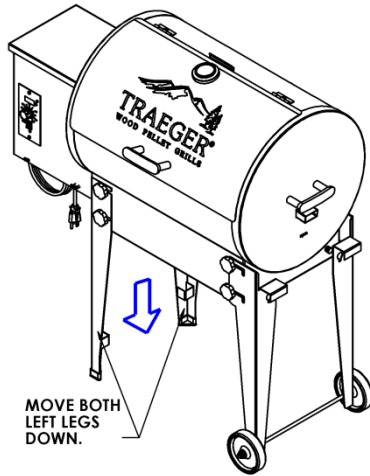
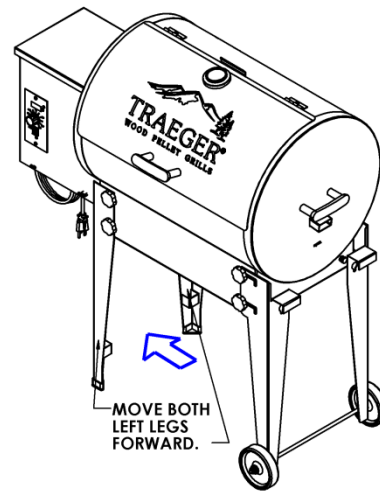
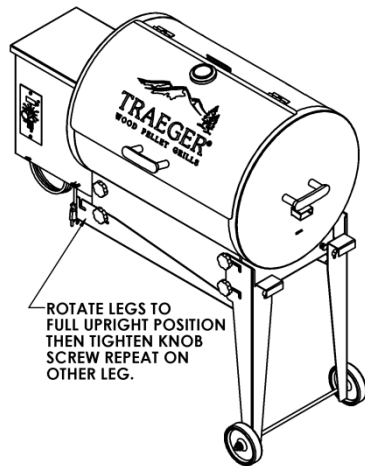

Figure 3-3
Figure 3-4
Figure 3-5
3. Lift up the left side of the grill by the handle on the hopper. Pull the front leg down until it stops (See figure 3-3) then pull the front leg to the left until it stops. (See figure 3-4) Then pivot the front leg until the leg comes into contact with the bottom of the skirt. Then tighten the bolts so they do not fall out. (See figure 3-5) Repeat the process on the back left leg. Set the grill down on the ground onto the hopper edge.